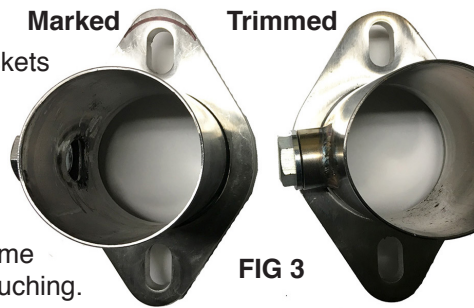

FIG 3
4. If you have a 289/302 or 5.0 based motor, skip to step 5. On 351W based motors, this step is very important. The shorty headers were not specifically designed for the 351W block in an EB, so there are a few mods required to make them fit. You will notice the PS header's two rear primary tubes make contact with the inner fender, some shaping/bending of the fender or the tubes may be required if you don't want them touching. You will also notice the collector flange is very close to the frame. See **FIG 3** for how we recommend to trim away some material from the header collector flange AND the adapter flange so they don't contact the frame when the motor twists. If you ignore this step, your headers will loosen from the head causing exhaust leaks and eventually damage the head.